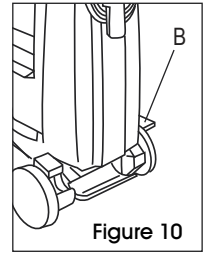

Figure 10
1. Step on pedal (B) to lower handle to operating position. (See Figure 10)
1. When the recovery tank (lower tank) is full, the automatic "shut-off" mechanism will shut off the cleaner suction. (See Figure 10)
2. When this happens, the red float disk (C) will rise to the top of the recovery tank lid (see illustration). The cleaner will no longer pick up dirty solution and the motor sound will become noticeably higher in pitch.